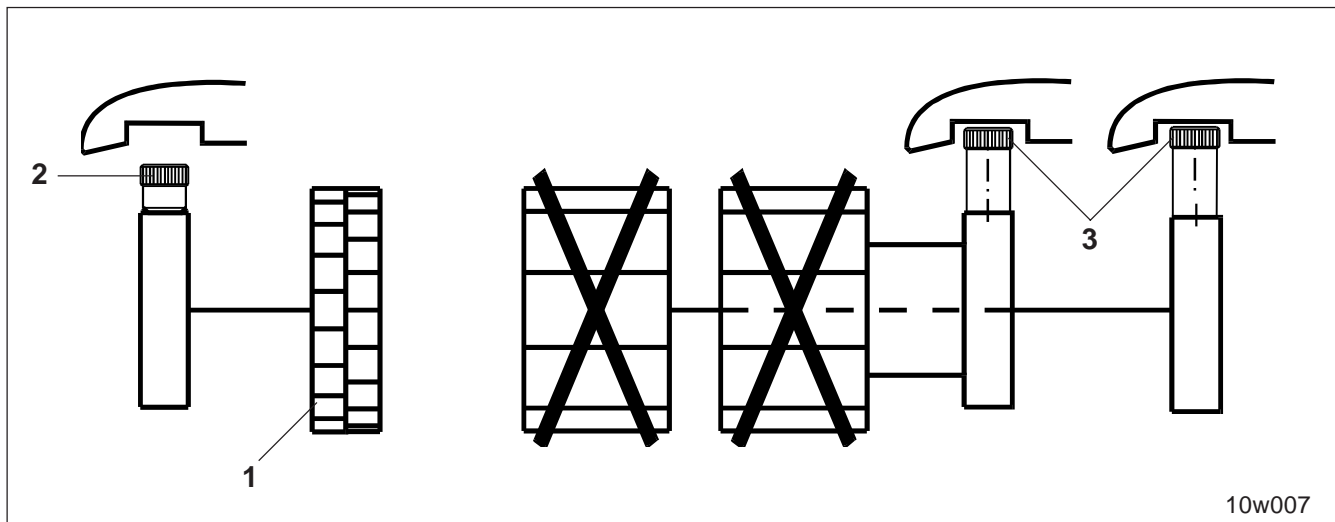

Fig. 15.6
For sowing with the fine seed metering wheel (Fig. 15.6/1)
- Screw in knurled screw (Fig. 15.6/2) of the fine seed metering wheel.
- Screw out knurled screws (Fig. 15.6/3) of both main seed metering wheels.